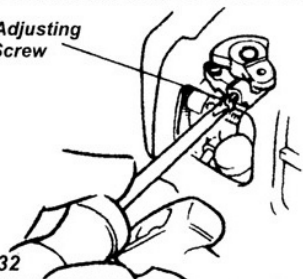

Figure 32
2. If the cutting attachment rotates at engine idle, reduce idle speed by turning the idle adjusting screw counter clockwise as necessary. See Figure 32.